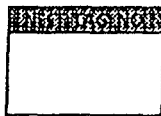

Fig. 4.1 Nest Tag Number Label
- (1) Nest Tag Number Label (Refer Fig. 4.1) 1 sheet